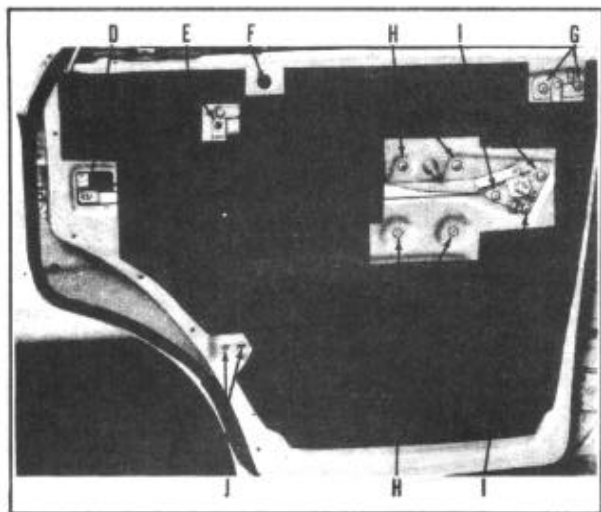
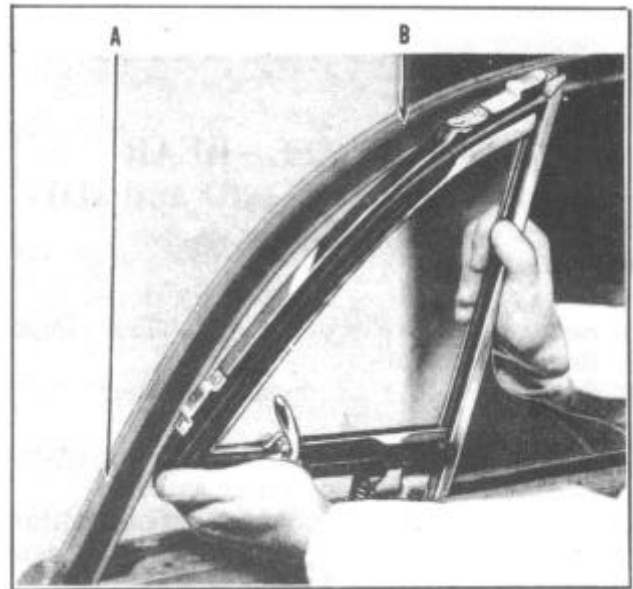

FIGURE 5
FIGURE 9
2. Cut inner panel as shown in Figure 5, to expose screws (G) and (H).
3. Remove the one screw (G).
5. Raise the door glass, insert a drift or punch through the opening where screw (G) has been removed. The drift should be so placed below glass channel to hold glass in a raised position when regulator is removed.
6. Remove screws (H) attaching regulator to door inner panel and remove the regulator through open-
2. Cut inner liner as shown in Figure 5, to expose screws (J).
3. Remove the two screws (J) attaching center bar glass run to door inner panel.
2. Cut inner liner as shown in Figure 5, to expose screws (F) and (J).
3. Remove screw (F) attaching wing frame to door inner panel.
4. Remove screws (A) and (B) attaching the wing frame to the upper door frame.
5. Grasp door glass center bar and pull back to dislodge wing frame from upper door frame, Figure 9.